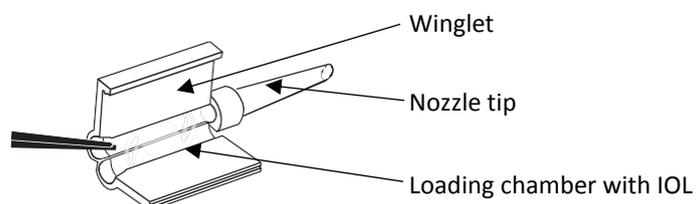

Fig. 1
7. Hold open the winglet of the cartridge, center the IOL and position the tip of the haptics under the edge of the grooves. Gently push the lens down with the forceps to ensure that the edges of the optic is securely underneath the edge of the grooves as shown in Fig. 1.